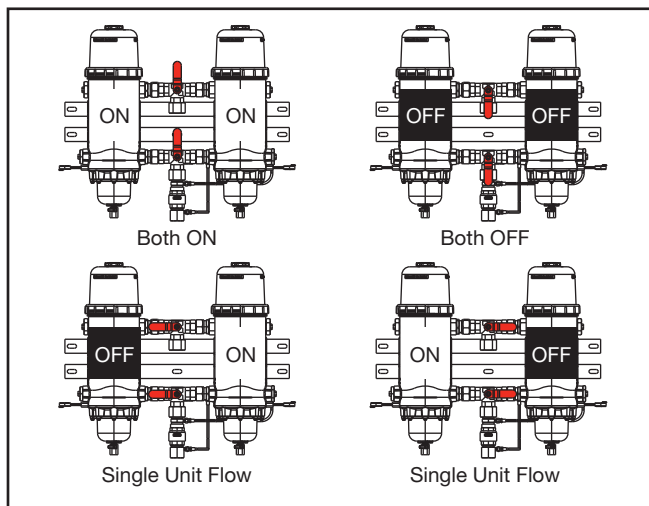

Figure 9 – Valve Operation
1. For single unit flow, rotate both valve handles either to the left or right, depending on which unit is being used. Point the handle toward the unit you want to isolate. See Figure 9.
2. For dual flow, rotate the valve 180° from the shutoff position. See Figure 9.
3. To shut off flow, rotate the valve handle 180° from the dual flow position. See Figure 9.
- a. Rotate both valve handles into the Dual Mode position (Both ON) until fuel is flowing through both units. See Figure 9.
- b. Rotate both handles to isolate the unit that requires the filter change. The handles should now point to this unit. See Figure 9.
- b. Rotate both valve handles to isolate either the left or right unit. The Duplex unit is now in Duplex mode. See Figure 9.
- d. After the filter change procedure is complete for this unit, rotate both valve handles into the Dual Mode position (Both ON) until fuel is flowing through both units. See Figure 9.
- e. Rotate both valve handles to isolate the other unit that requires filter change. The valve handles should now point to this unit. See Figure 9.